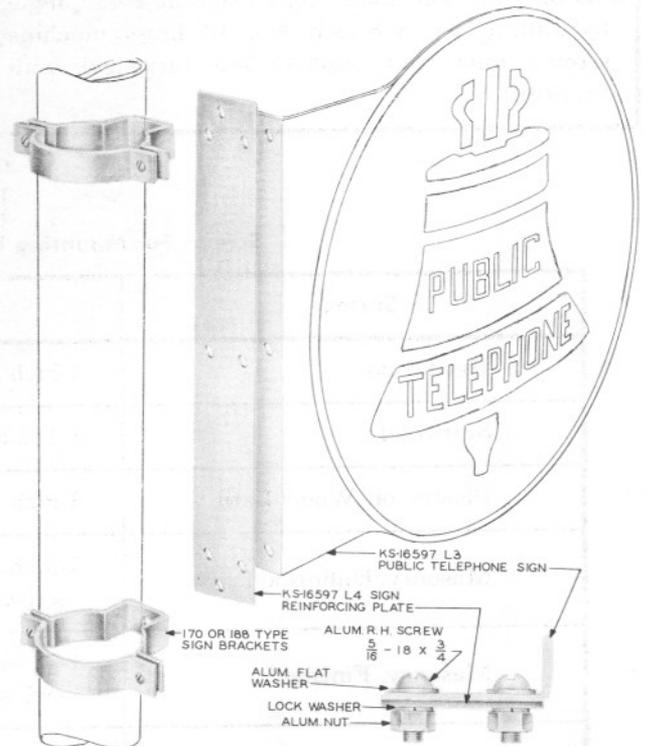

Fig. 3 — KS-16597, List 4 Sign Reinforcing Plate with 170- or 188-type Sign Brackets
- To mount KS-16597, List 3 sign with 170- or 188-type sign brackets, a KS-16597, List 4 sign reinforcing plate will be required to prevent buckling (see Fig. 3).